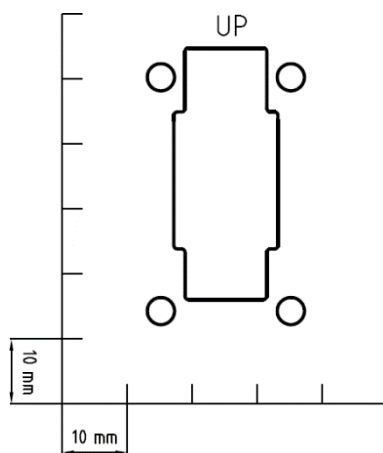

Fig. 2
- 1.2. Place the template (Fig. 2) for installation hole enlarging on the fuselage and align with the rivet holes (template in the scale 1:1 is in the Appendix 1, „UP“ symbol marks upper side of template). Enlarge the hole in the fuselage for installation of new canopy lock socket according to template. It is necessary to chamfer the sharp corners min. $R = 0.5 \text{ mm}$!